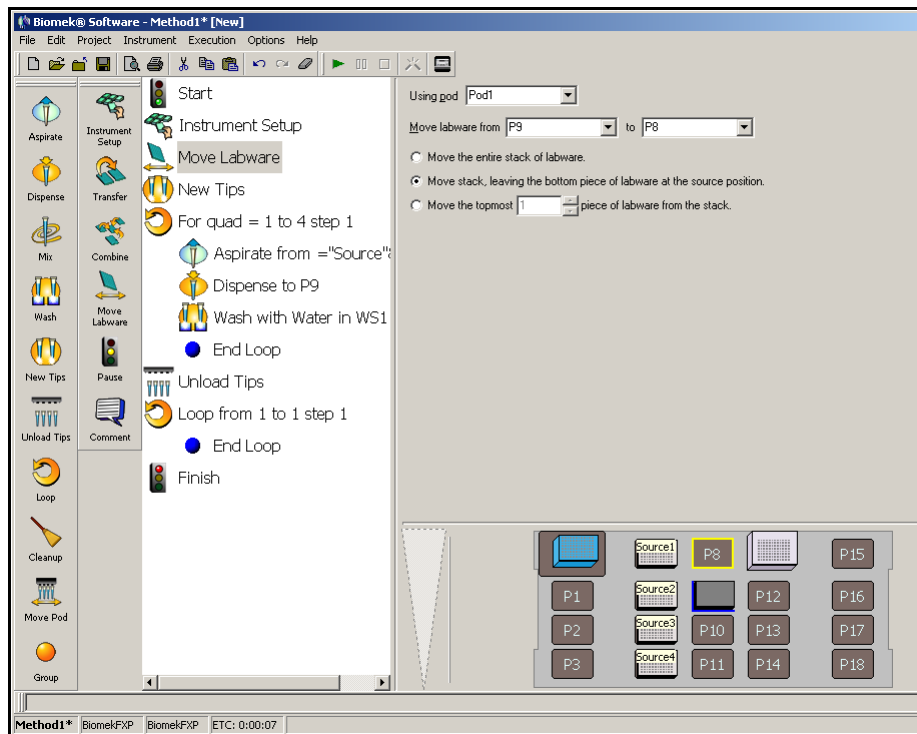

Figure 3-17. Using Move Labware to remove a lid
6. Select the second option to **Move stack, leaving the bottom piece of labware at the source position**. This tells Biomek to pick up only the lid and leave the plate at its current position. Your Move Labware step configuration should look like Figure 3-17.